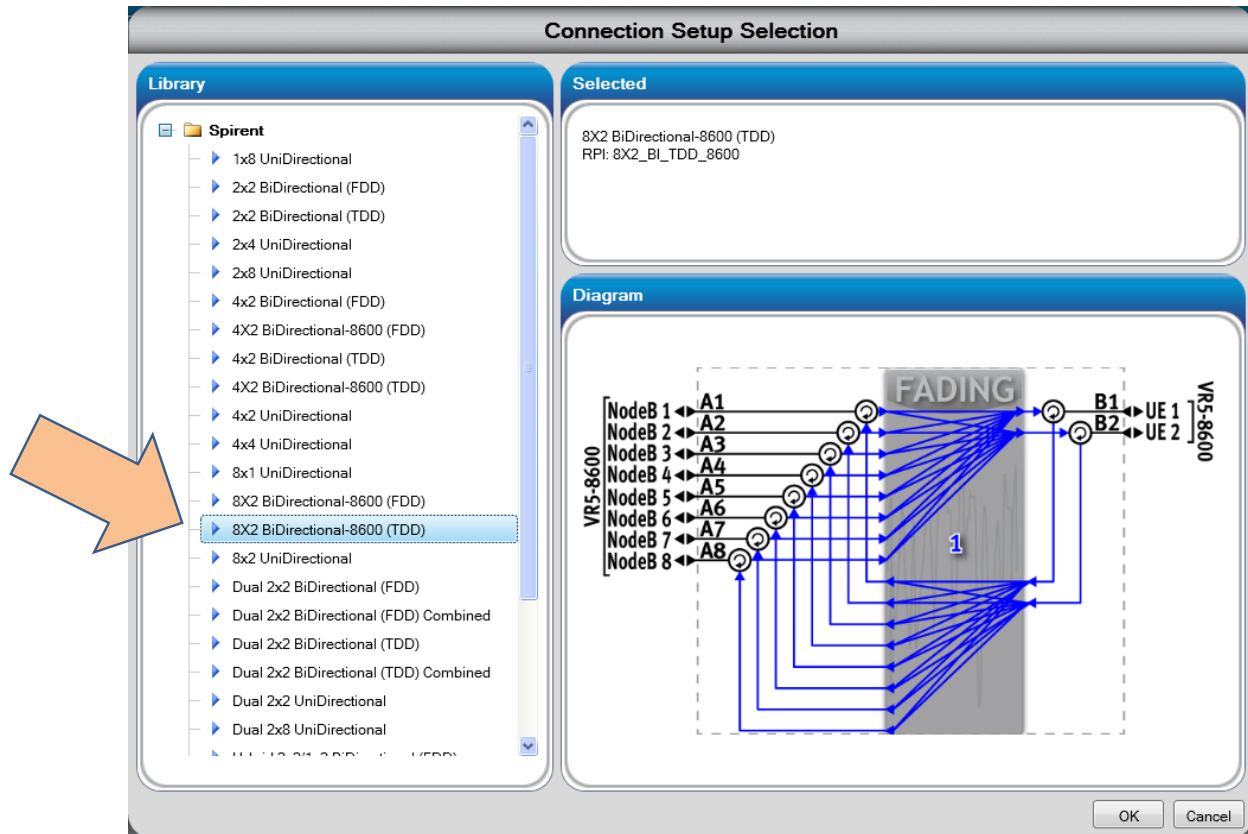

Figure 4-5: Connection Setup Selection Window
6. If a different Connection Setup is displayed, click **Select** to choose the correct test. The *Connection Setup Selection* window displays, as shown in Figure 4-5.
7. Select **8X2 BiDirectional-8600 (TDD)**, as shown in Figure 4-5.